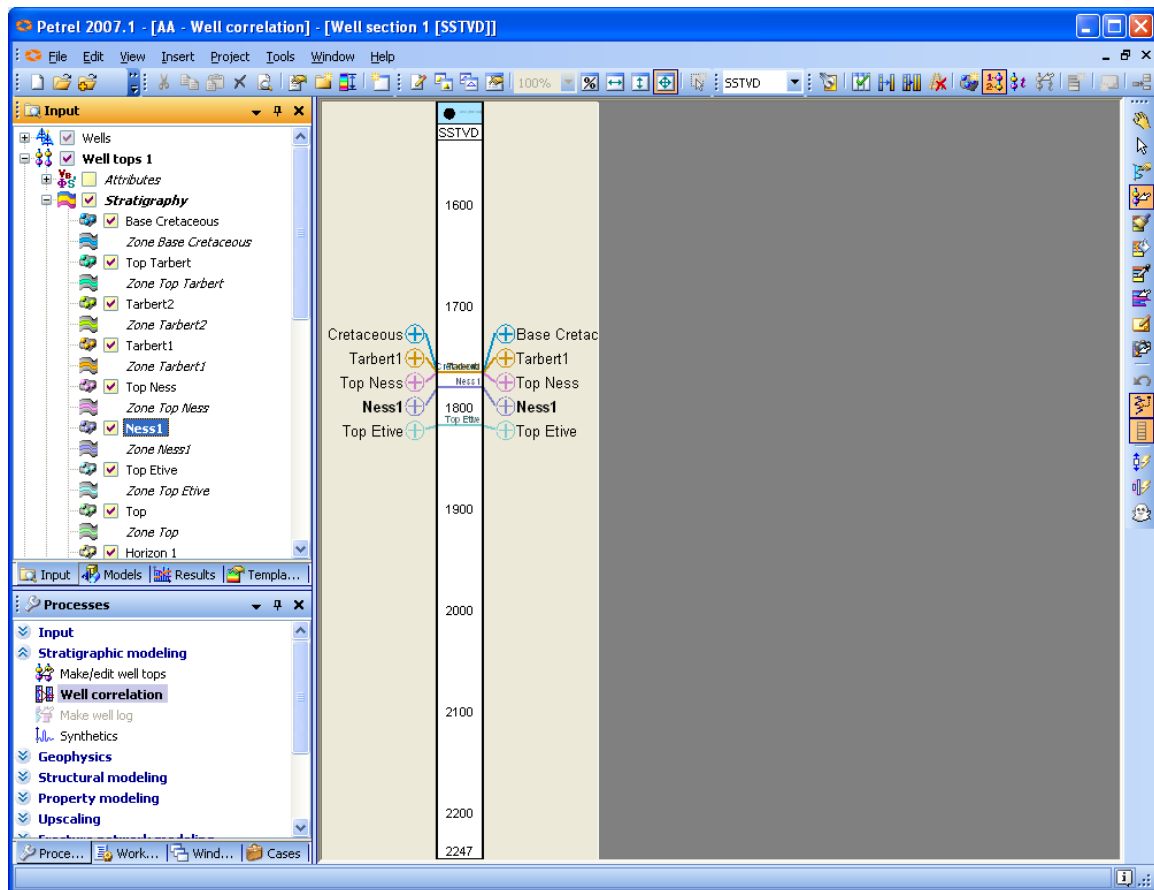

Fig. 10.24: Displaying the new Well Tops, for Top Ness in a Well Section window
3. A window will pop up in which you should specify the type of log to be created. In this case, choose fluvial facies as shown in Fig. 10.24.